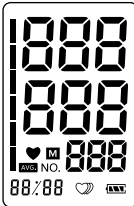

Figure 1
- Switch on the unit by pressing the Start/Stop button. The full display appears (Figure 1).